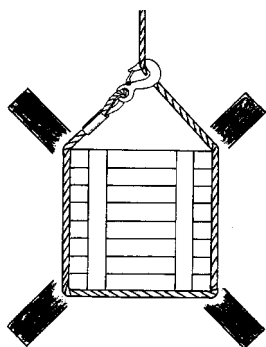

Fig. 5
- The wire rope must not be used for lashing purposes (Fig. 5).